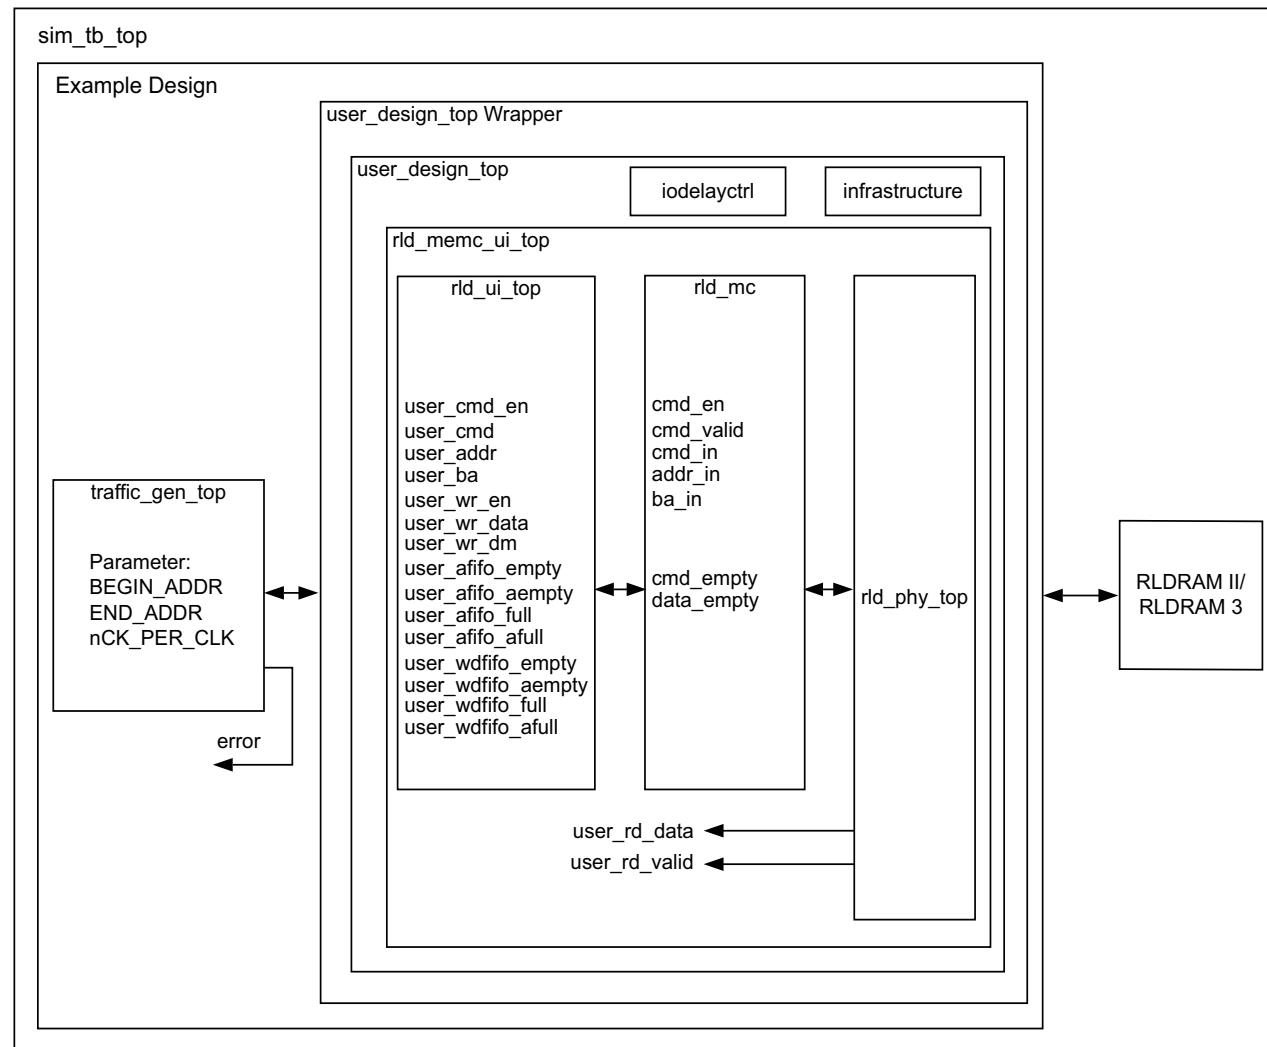

Figure 3-35: Synthesizable Example Design Block Diagram
The MIG tool provides a synthesizable test bench to generate various traffic data patterns to the Memory Controller (MC). This test bench consists of a rld\_memc\_ui\_top wrapper, a traffic\_generator that generates traffic patterns through the user interface to a rld\_ui\_top core, and an infrastructure core that provides clock resources to the rld\_memc\_ui\_top core. A block diagram of the example design test bench is shown in Figure 3-35.